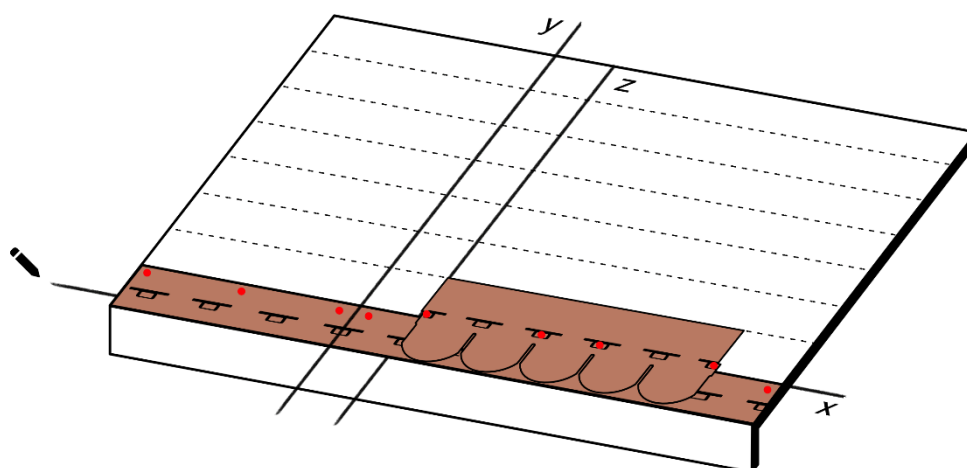
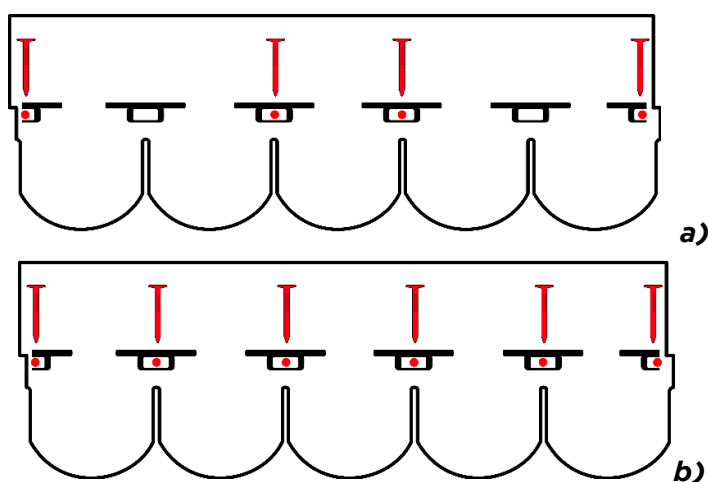

Fig. 7 - Shingles installation
Fig. 8 - Shingle nailing a) slopes <60°; b) slopes >60°
- Apply over the membrane/underlayer a bead of bituminous adhesive Bitustick close to the gutter line - Fig. 7;
- Proceed with the installation of the first row of shingles: align the lateral edge of the first shingle on the vertical **z** and the upper edge on the horizontal 14,5 cm from **x** - Fig. 7. Nail the shingle to the substrate by placing 4 nails per shingle, in the centre of the self-adhesive points, as per Fig. 8 a). In the event of pitched slopes between 60° and 85°, place 2 additional nails in the middle of the second and fifth self-adhesive points, for a total of 6 nails per shingle, as per Fig. 8 b). Proceed by placing all the shingles in the first row.